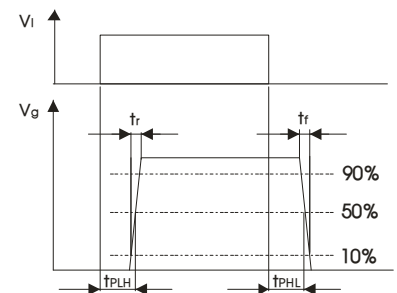

Fig 3. Signal delay test diagram
2. Input and output delay time, rise time and fall time characteristics are defined in Fig.3.